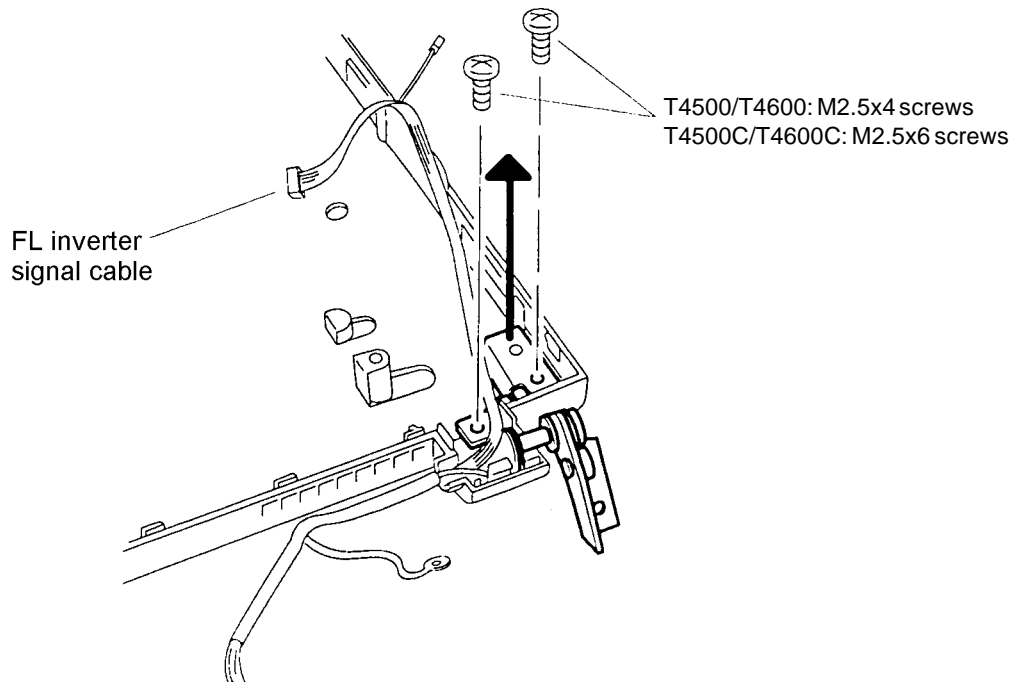

Figure 4-48 Removing the FL Inverter Signal Cable
To remove the T4500/T4600 Family computer's FL inverter cable, display cables and display sensor switch, follow the steps below and refer to Figures 4-48 through 4-50.
3. To remove the gray **FL inverter signal cable**, remove **two M2.5x4 screws** (T4500/T4600) or **two M2.5x6 screws** (T4500C/T4600C) securing the bracket holding the cable and lift out the cable (Figure 4-48).